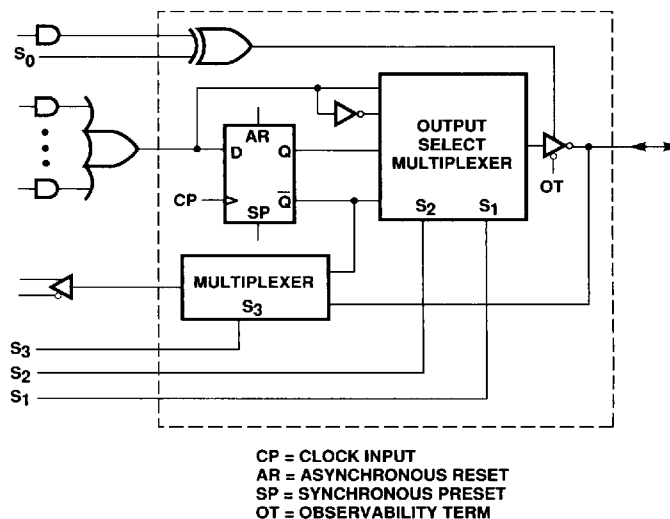
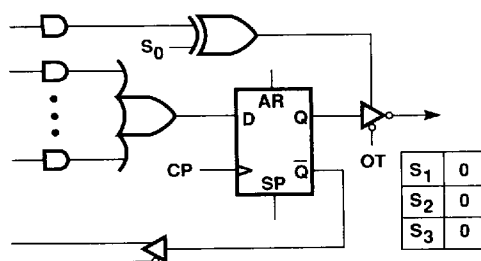

Figure 1
Figure 2a. Registered Feedback, Registered Output, Active-LOW Output
Figure 1, each OLM contains four programming inputs: S_0 , S_1 , S_2 , and S_3 . The S_0 programming input specifies the polarity of the Output Enable (OE) signal for the individual output as shown. Depending on the configuration of the S_1 , S_2 , and S_3 programming inputs, an individual output will operate in one of eight modes outlined in Figure 1. The resulting increase in I/O configuration flexibility enables the designer to optimize the device for precise application requirements. Figures 2a through 2h show all eight possible configurations of the OLM outlined in Figure 1.